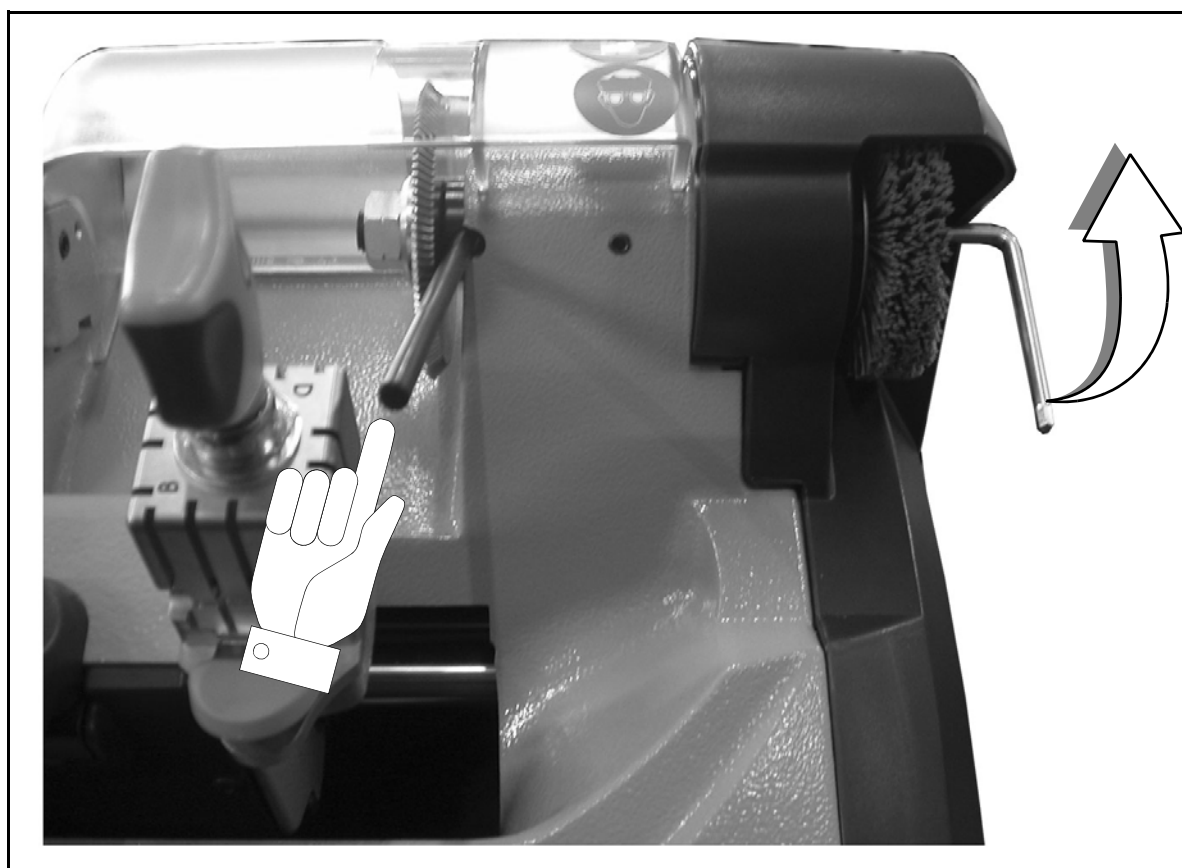

Figure 15: How to replace the brush
1. Introduce the locking rod into the cutter shaft to lock it and at the same time loosen the brush nut by means of the 6 mm hexagon spanner (see figure 15);